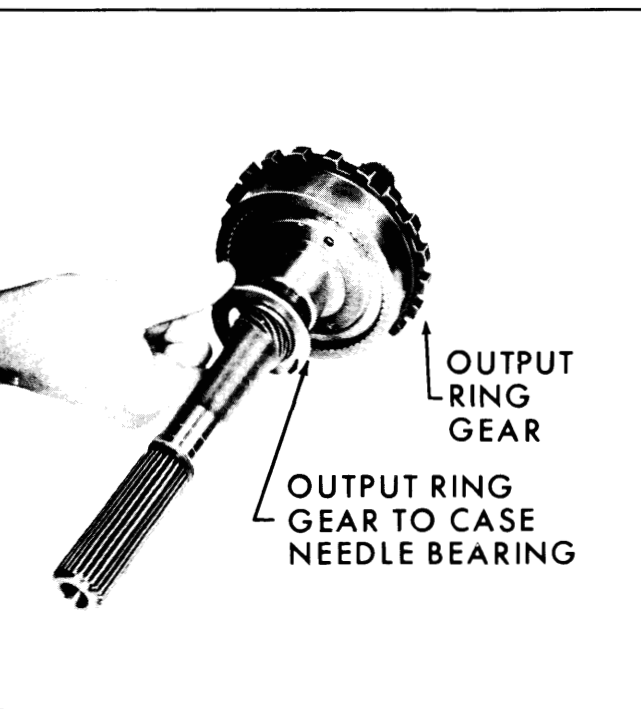

Fig. 7-50—Removing Output Ring Gear Needle Bearing Assembly
19. Remove output ring gear to case needle bearing assembly. (Fig. 7-50)